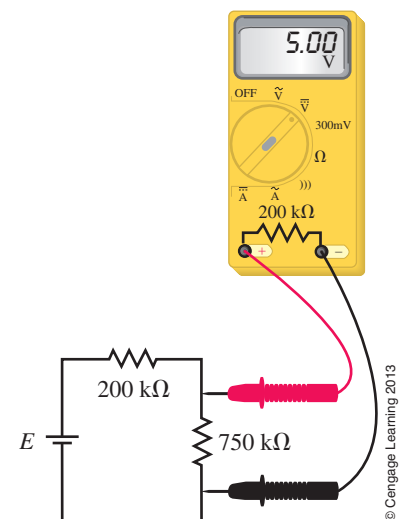

FIGURE 7-74
35. A voltmeter having a sensitivity $S = 20\text{ k}\Omega/\text{V}$ is used on the 10-V range ($200\text{-k}\Omega$ total internal resistance) to measure voltage across the $750\text{-k}\Omega$ resistor of Figure 7-74. The voltage indicated by the meter is 5.00 V .